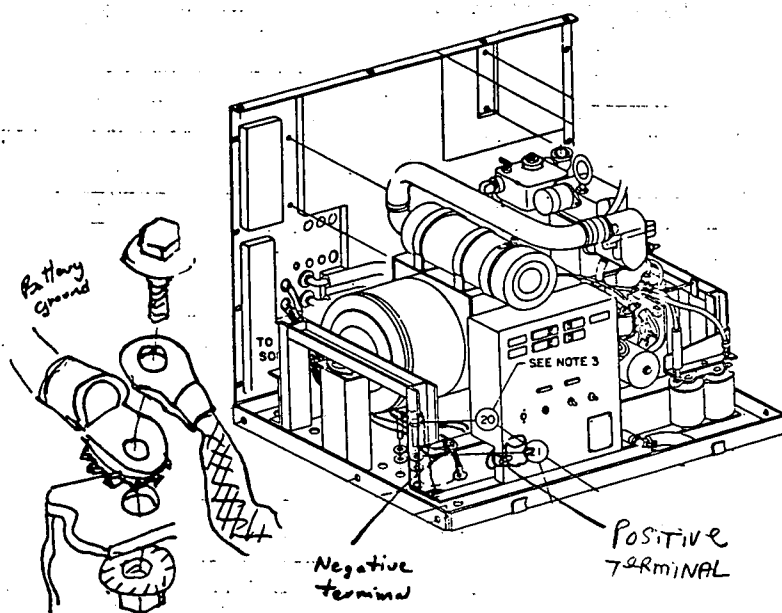

FIGURE 24. Battery Cable Routing and Connections
2. Connect the negative battery cable and the ground strap to the same location on the genset chassis as shown in the assembly sequence in Figure 24. Assemble mounting hardware and all three cable terminals as shown in Figure 24, detail A. Mounting hardware is supplied in accessory package. Opposite end of 16 inch truck electrical bonding strap must be attached to a convenient bolt on the side of the truck frame rail. If no existing bolt or bolt hole is